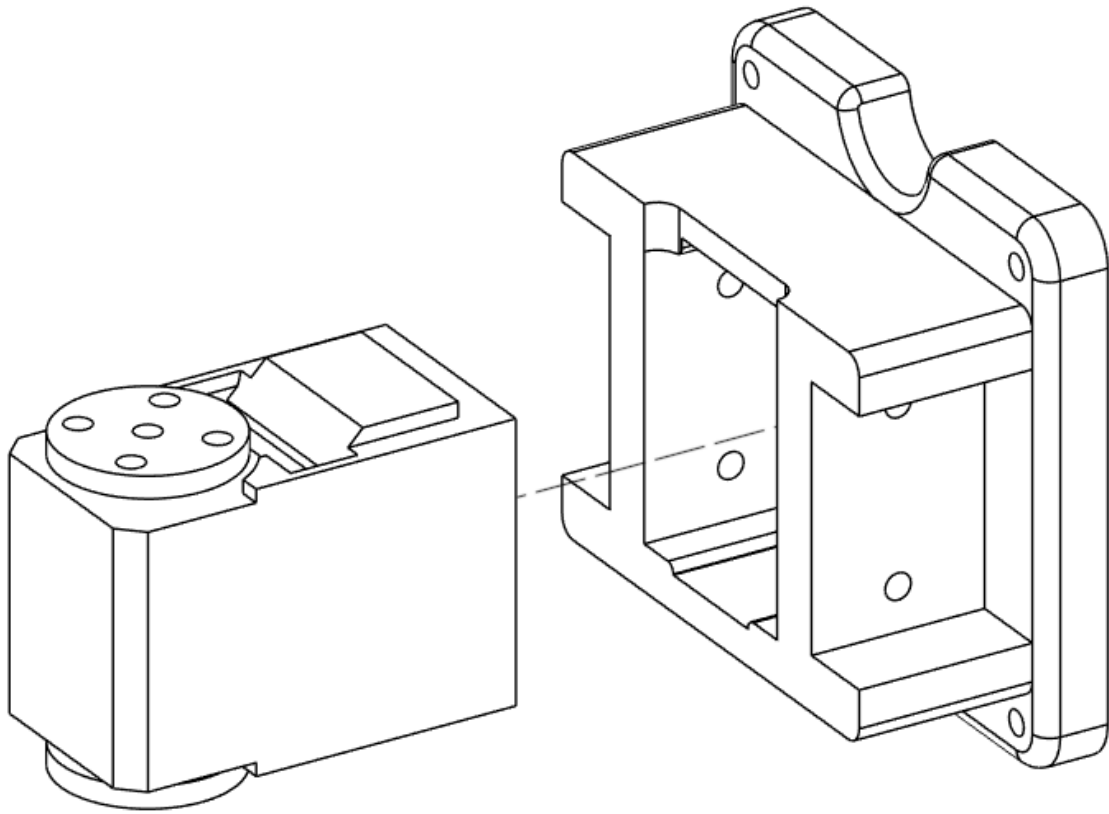

Figure 10.1 - Motor 1 Assembly
1. Insert Motor 1 into Arm Base as shown in Figure 10.1